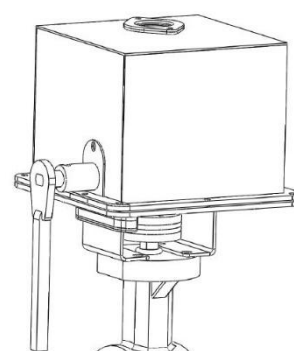

Figure.3
4. Attach the lever to the manual override shaft as illustrated in Figure 3, and rotate it in the direction indicated on the valve cover.